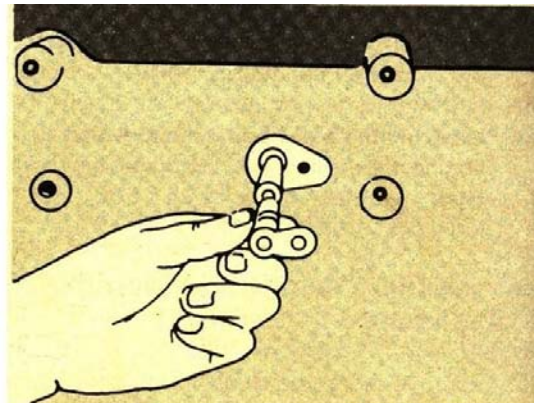

Fig. 14-52, Install the piston cooling nozzle
2. Insert the nozzles in the block (Fig. 14-52) and align the notch in the nozzle with the threaded hole in the block.